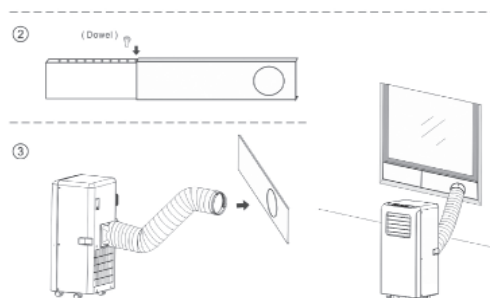

Fig. 6
3. As shown in Fig. 6, connect drain hose well (only for using heating model).